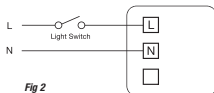

Fig 2
The single speed fan is switched via an existing or a new light, or auto sensor, switch (switch not supplied) (Fig 2).
The single speed fan is switched via an existing lighting circuit switch (Fig 2) or a new ON/OFF switch (Fig 3) (switch not supplied), however, on the timer model, a built-in timer allows the fan to run on after being switched off.
The single speed fan is switched via an existing lighting circuit switch (Fig 2) or a new ON/OFF switch (Fig 5) (switch not supplied), however, on the humidity model, an integral humidity controller, when in automatic mode, will switch the fan ON at full speed when the room relative humidity (RH) increases. The fan will continue to run until the room's relative humidity falls.